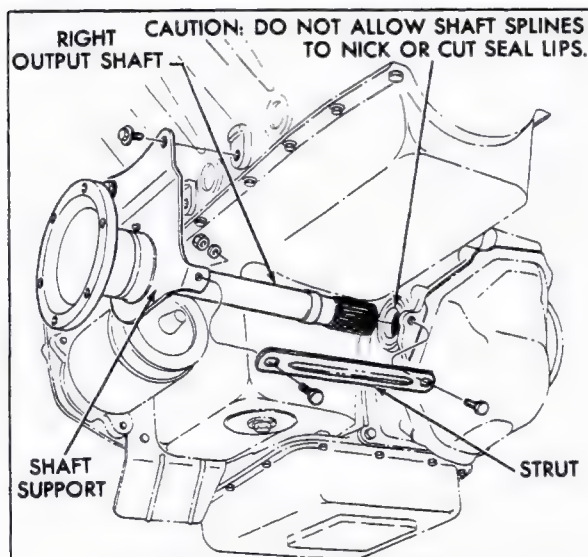

Fig. 3-71 Right Hand Output Shaft
39. Right Hand Output Shaft (Fig. 3-71)